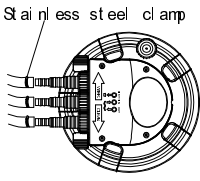

Figure 2
- Connect your pump to the filter hose connector (marked by the arrow symbol) with flexible hose. Attach the hose to the filter connector (marked by the arrow symbol). Use hose clamps to create a water tight seal at all of your hose connections (filter and pump). (See figure 2)